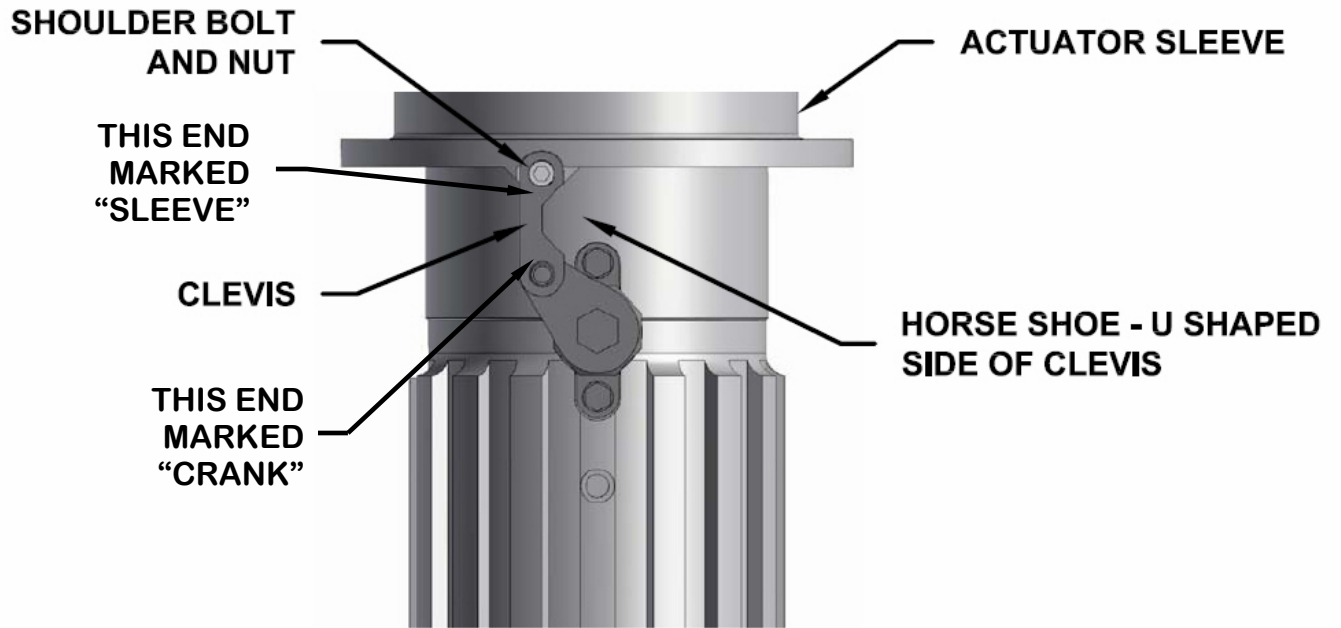

**Figures 5**
3. Install lower crank assembly (with shoulder bolt hole) in the lower ball stem hole of the Quad Crank Upper Top Drive Valve. Torque the 0.375-16 UNC grade 8 cap screws 45 to 50 ft-lb. Ensure crank with shoulder bolt is in the correct position, which is approximately 2 1/4 inches from the crank shoulder bolt hole to the actuator sleeve shoulder bolt hole (see **Figure 5**).